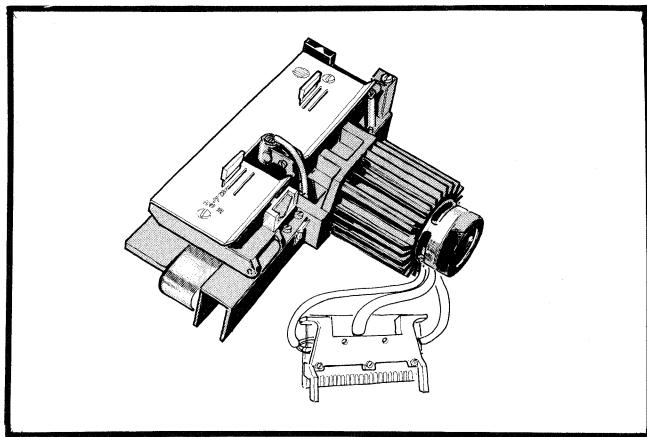

Fig. 1 Read module
The read module, fig 1, contains the read head with read amplifier as well as the stepping motor with capstan and pinch roller. This module also includes the tape guides used to reset for different tape widths and a thumbwheel used to reset for different tape configurations. The read module — perhaps the most important of the main modules — fulfils extraordinarily stringent reliability requirements. The integral read head has been designed to ensure high-precision reading and insensitivity to extraneous light. The tape feed mechanism and the tape guides are designed to ensure gentle tape handling with minimal noise. The rubber capstan has brought the noise level down as low as 62 dB(A) at maximum reading speed.